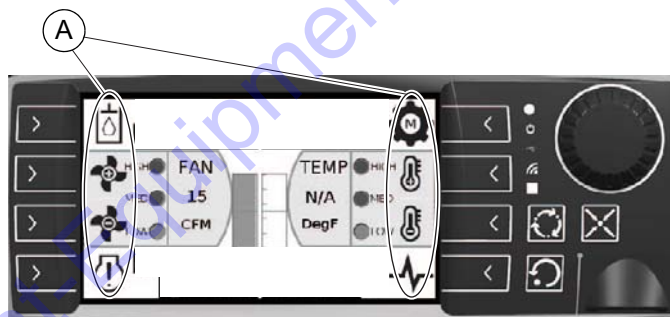

Figure 2-8. Home Page
Eight buttons around the screen are for page-to-page navigation or real-time heater adjustment. See Figure 2-8. On most pages, an icon displays next to each button (A). Each icon indicates what navigation or adjustment occurs when the corresponding button is pushed.